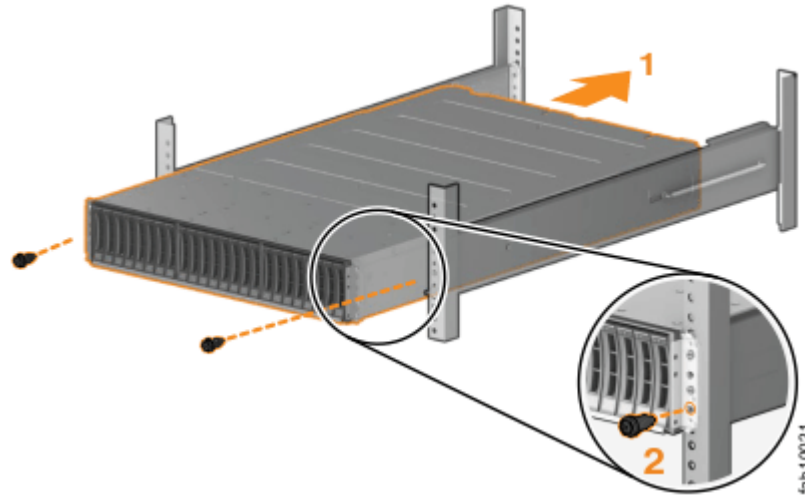
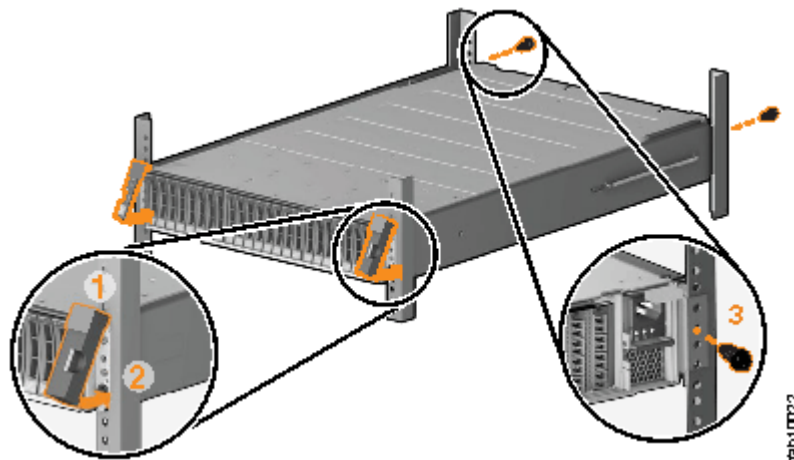

Figure 38. Inserting the enclosure
Figure 39. Reinstalling enclosure end caps
- See Figure 38 on page 72.
(See Figure 38 on page 72 and Figure 39 on page 72.)
See Figure 39 on page 72. The left end cap has indicator windows that align with the status LEDs (light-emitting diodes) on the edge of the enclosure.